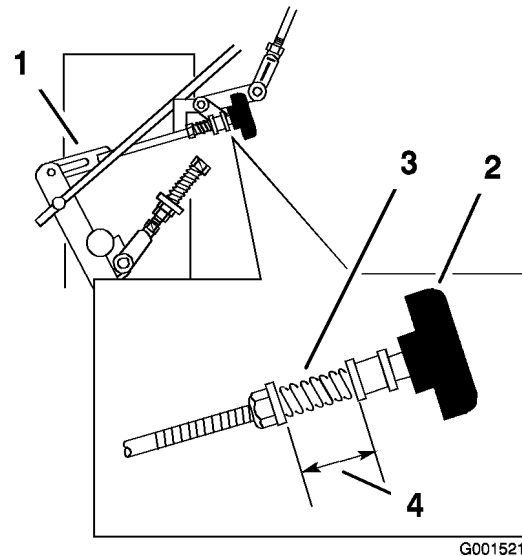

Figure 39
3. Adjust the right side linkage by turning the quick track knob counterclockwise until the tire begins to rotate forward (Figure 39).
4. Turn the knob clockwise 1/4 of a turn at a time. Then move the speed control forward and back to neutral. Repeat this until right wheel stops rotating forward (Figure 39).
6. The spring that keeps tension on the knob should normally not need adjustment. However if an adjustment is needed, adjust the length of spring to 1 inch (26 mm) between the washers (Figure 39).
7. Adjust spring length by turning nut at front of spring (Figure 39).